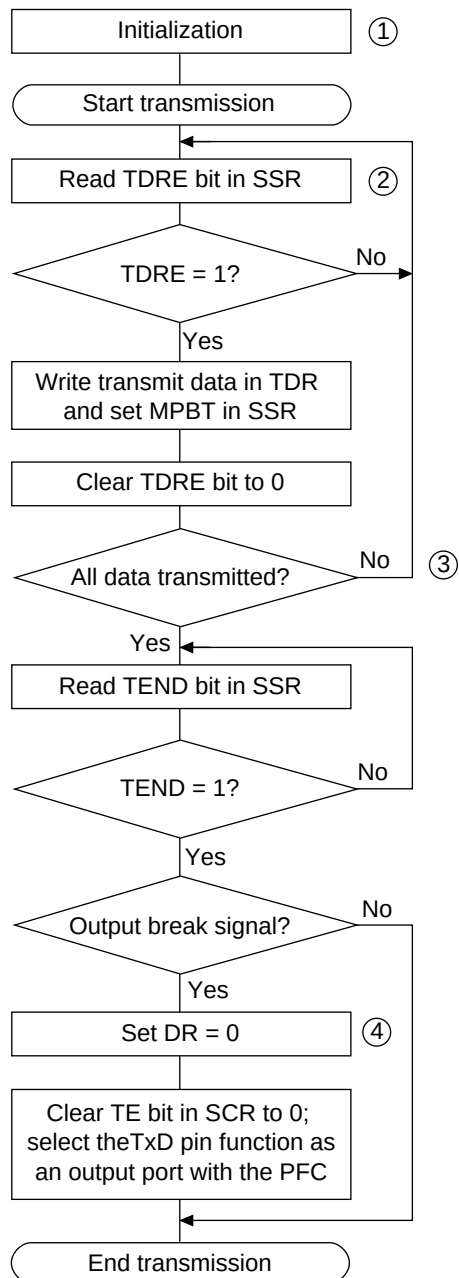

**Figure 14.11 Sample Flowchart for Transmitting Multiprocessor Serial Data**
**Transmitting Multiprocessor Serial Data:** Figure 14.11 shows a sample flowchart for transmitting multiprocessor serial data. The procedure is as follows (the steps correspond to the numbers in the flowchart):
4. Output a break at the end of serial transmission: Set the data register (DR) of the port to 0, then clear TE to 0 in SCR and set the TxD pin function as output port with the PFC.